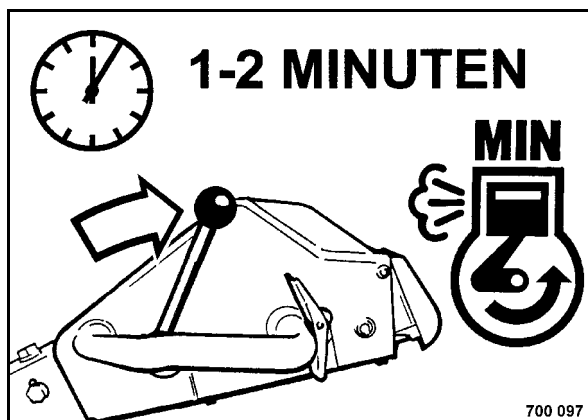

Fig. 27
- After starting take the throttle lever back to position "MIN" (Fig. 27).